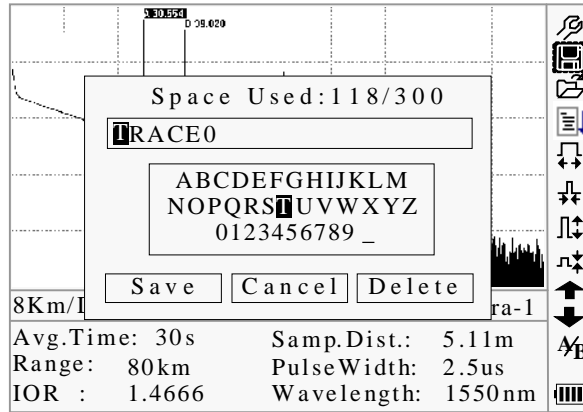

Figure 4-5. Save Trace
- Under GUI of Figure 4-4., use [▲] and [▼] to highlight , then press [Enter] to enter, as shown in Figure 4-5.